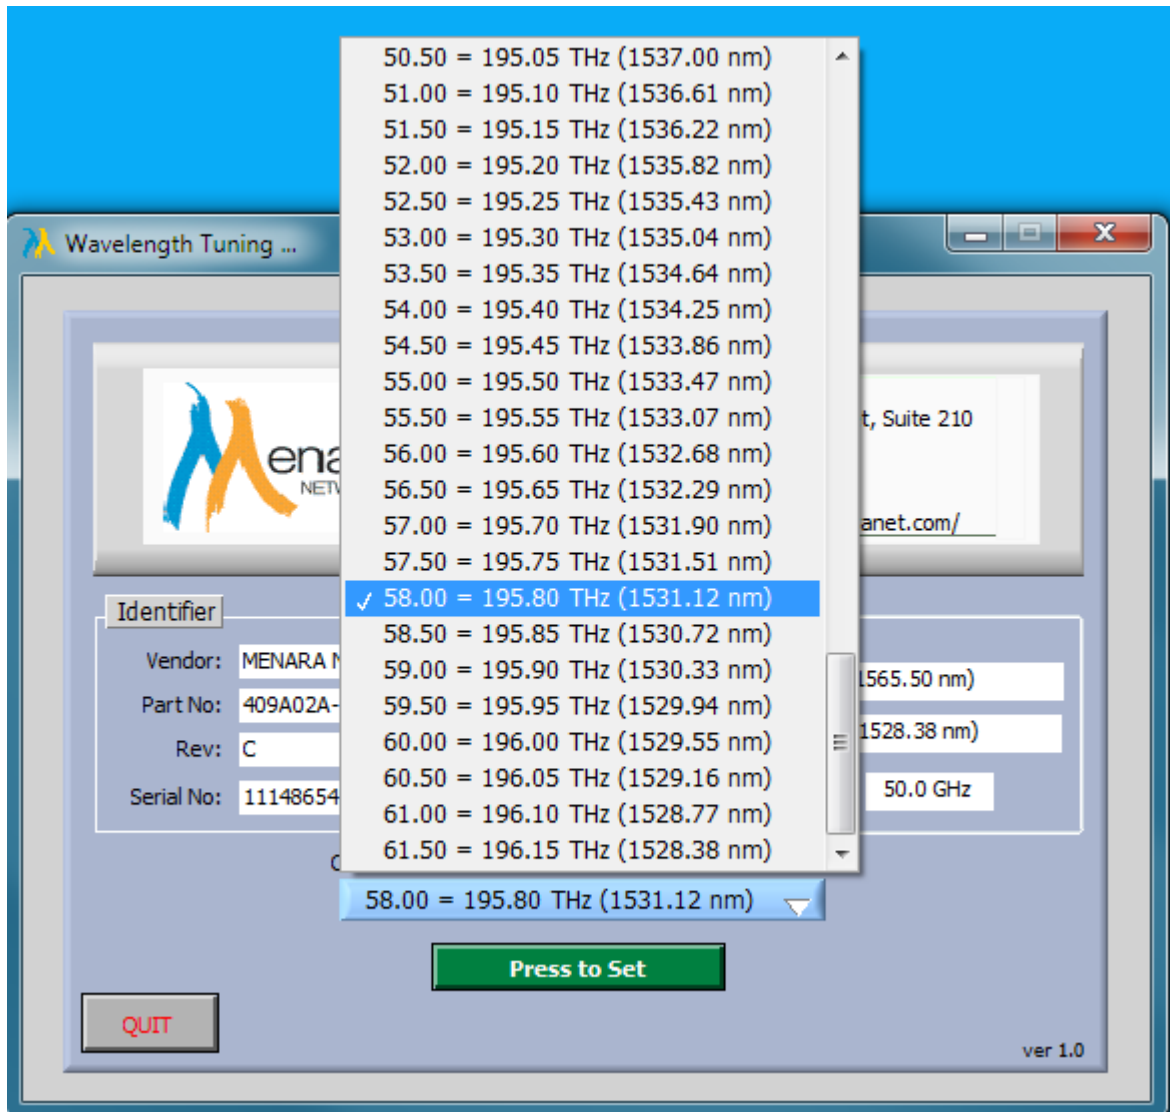

Figure 9: Wavelength Tuning GUI - Channel Select
3. Select the desired Channel using the Channel Select drop-down as shown in Figure 9.